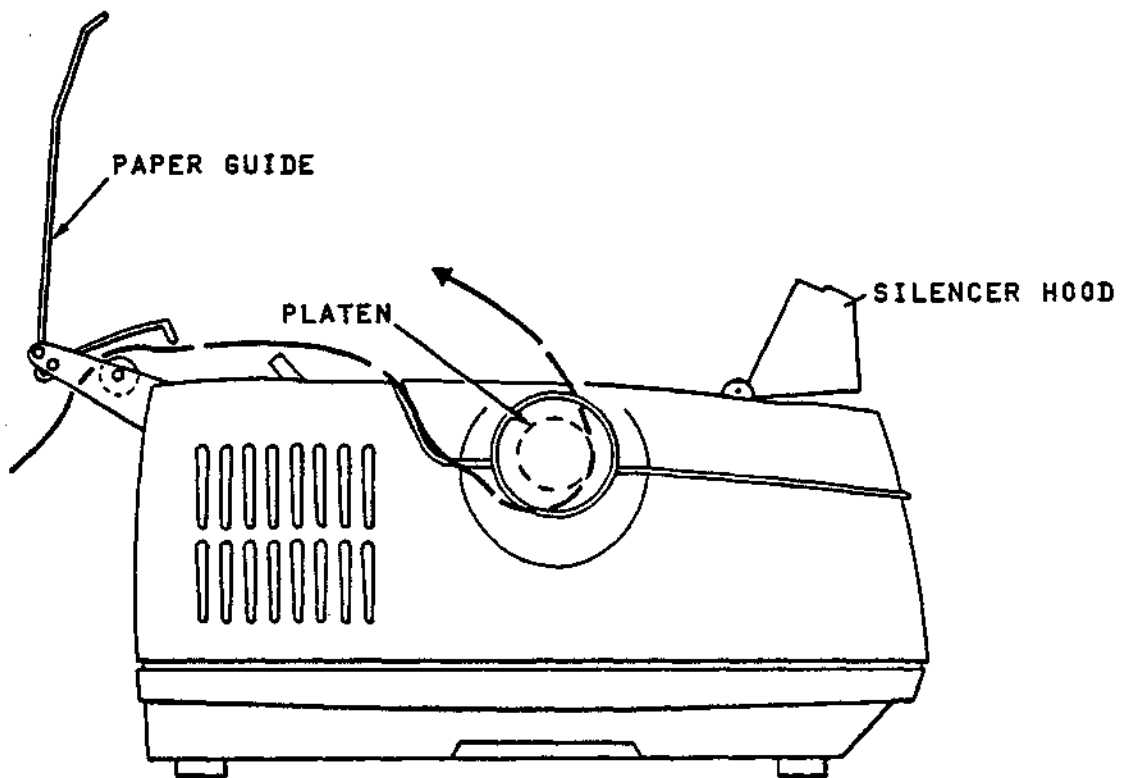
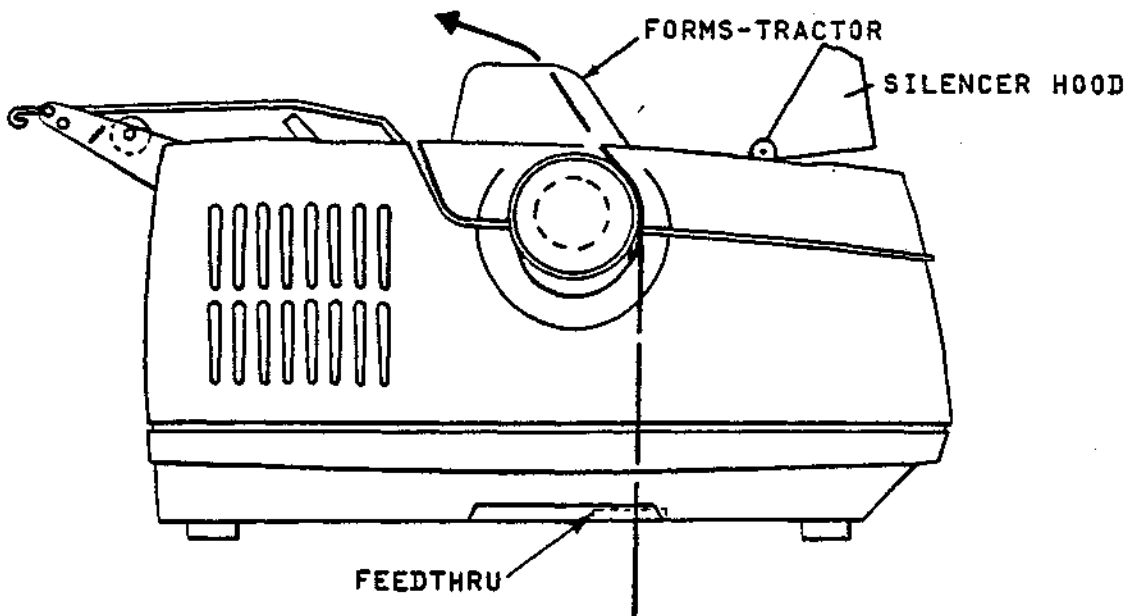

Figure 2-2 Paper Feed Path - Rear
Figure 2-3 Paper Feed Path - Bottom (Optional)
The SPINWRITER has three different types of paper feed: friction-feed, pin-feed, and vertical type tractor paper feed. When loading paper, refer to the procedure below that applies to the particular type of paper feed for your machine. Figure 2-2 shows rear paper feed path. Figure 2-3 shows the paper feed path for bottom feed.
- d. Insert paper with printing surface down, as shown in Figure 2-2.
- e. Insert paper with printing surface down (for rear feed), as shown in Figure 2-2.
- e. Insert paper with printing side down (for rear feed) as shown in Figure 2-2.